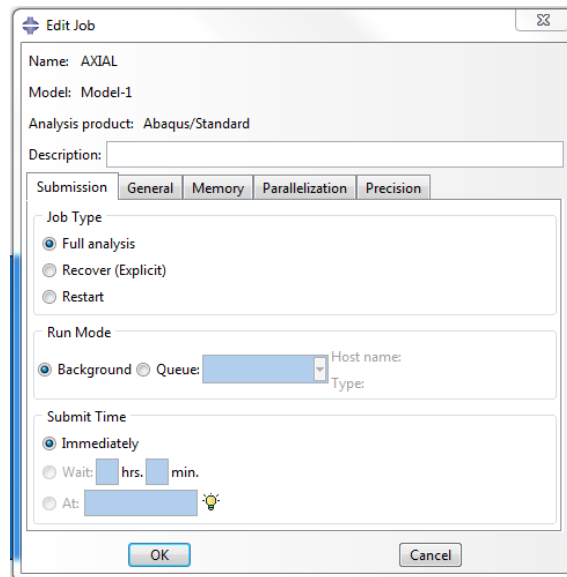

Figure 32. Edit Job Dialog Box (AXIAL)
- The **Edit Job** dialog box will immediately appear (Figure 32).